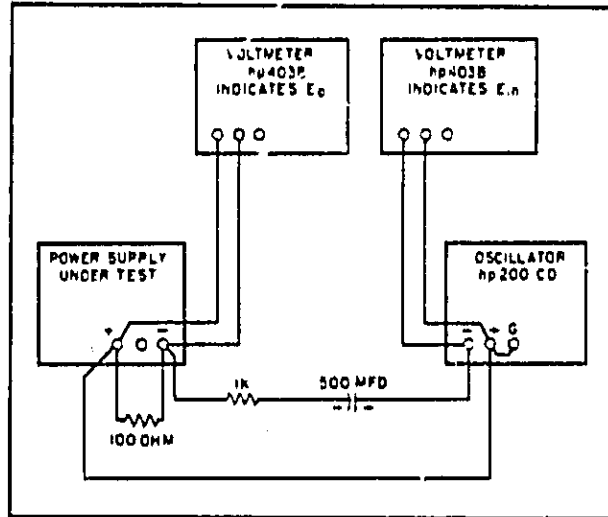

Figure 5-6. Output Impedance, Test Setup
- Connect test setup shown in Figure 5-6,